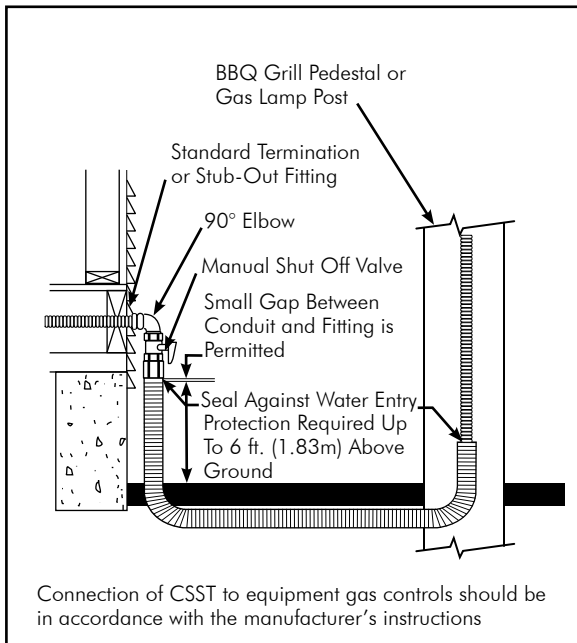

FIG. 4-26 Ground Level Buried Connection
- Yard mounted gas powered lights shall be connected to the Diamondback system as shown in **FIG. 4-26**. All Diamondback installed below grade shall be protected by nonmetallic conduit. Exposed ends shall be sealed against water entry.
FIG. 4-26 shows an acceptable installation of CSST underground or in concrete.